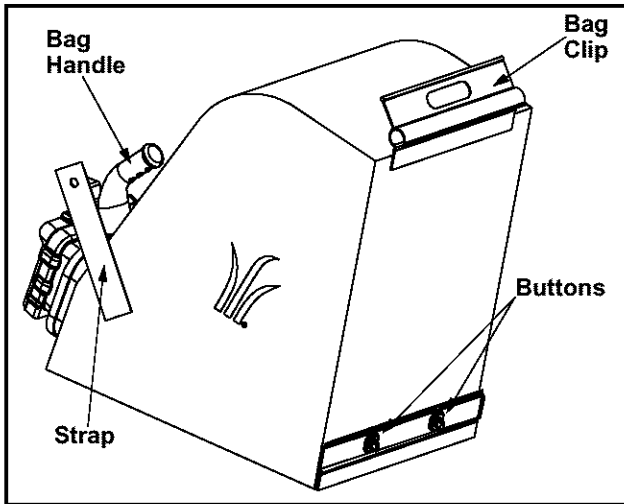

Figure 7
1. Unhook bag straps from the lower handle and unsnap bag clip from the top of the lower handle. See Figure 7.
4. Twist the two buttons on the back of the bag to unlock and empty contents. See Figure 7.